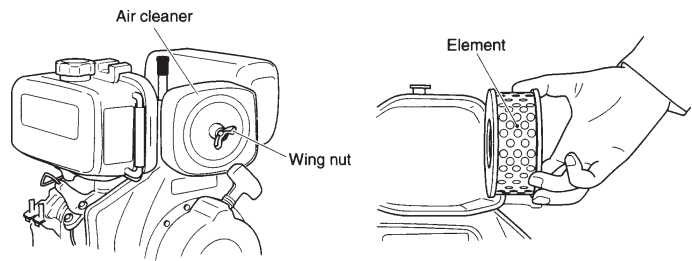

Figure 15. Engine Air Cleaner
1. Loosen the wing nut and detach the cover of the air cleaner shown in Figure 15.
2. Tap the element (Figure 15) several times on a hard surface to remove dirt, or blow compressed air [not exceeding 30 psi (207 kPa, 2.1 kgf/cm2)] through the element. side. **NEVER** wash the element with detergent because the element is oil-soaked type. Replace the element when the output decreases or bad exhaust color is noticed.